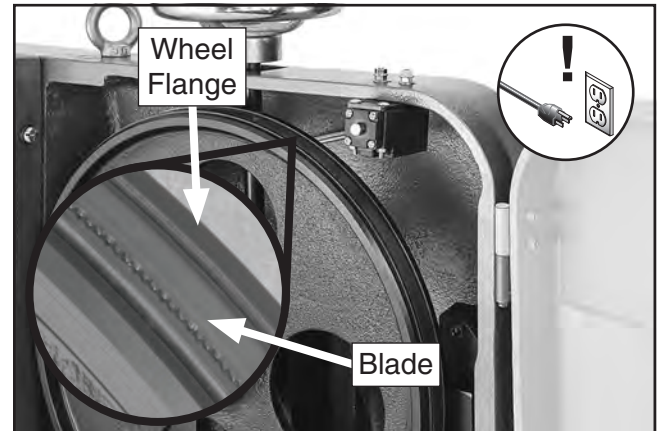

Figure 39. Back edge of blade next to wheel flange.
6. Position the back edge of the blade so that it is next to, but not against, the flange of the top wheel (see **Figure 39**).